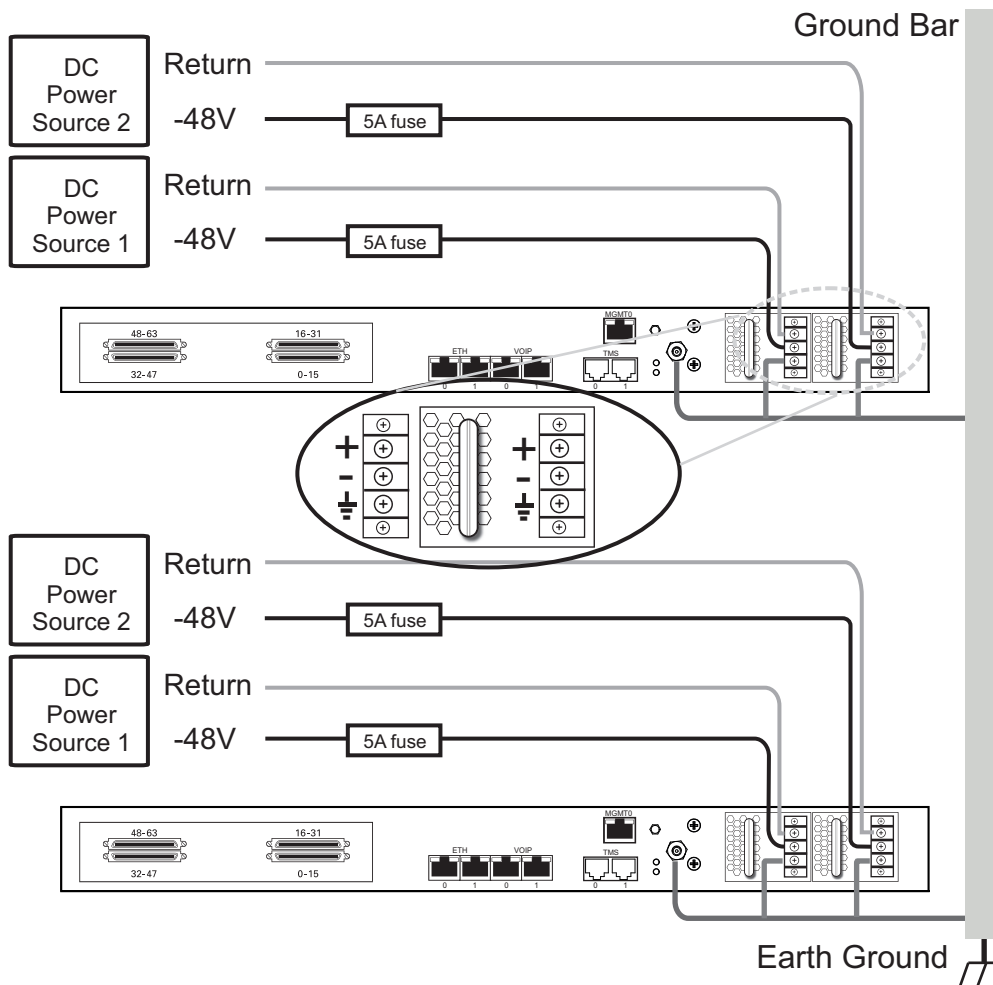

Figure 2.18 3200 Series and 3200 Series +1 DC Power Connections
1. Connect one wire from the positive terminal of the 3200 series gateway to the return side of DC power source one, as shown in figure 2.18 on page 38.